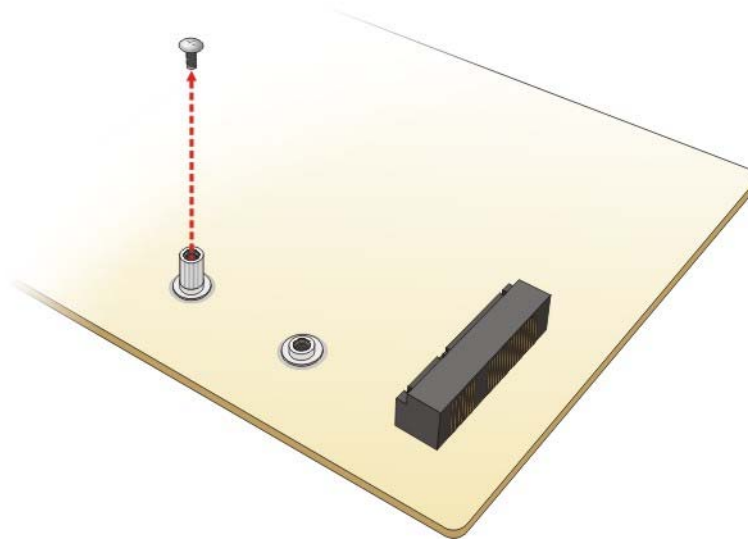

Figure 4-2: Removing the Retention Screw
- Step 2:** **Remove the retention screw.** Remove the retention screw as shown in **Figure 4-2**.
Step 2: **Remove the retention screw.** Remove the retention screw as shown in **Figure 4-2**.